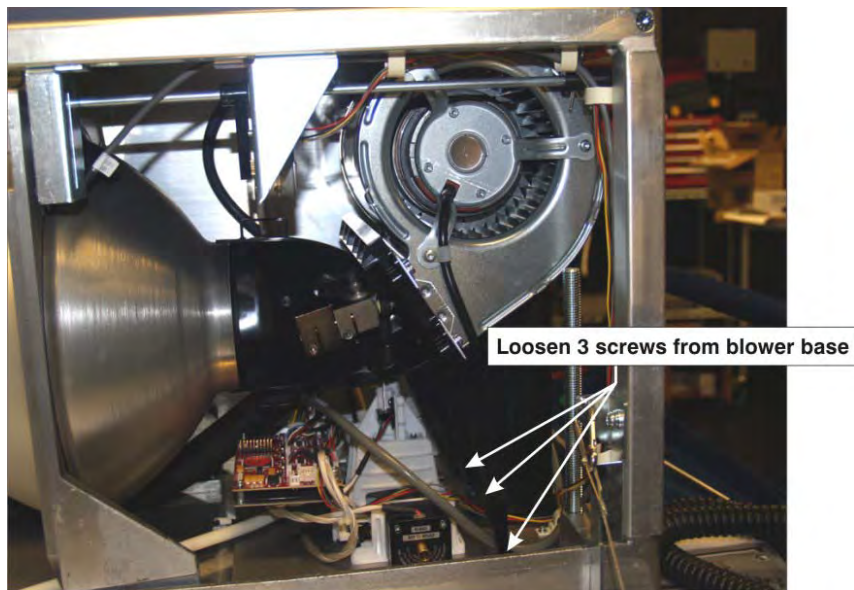

Figure 5-51 Lamp Blower Base
6. Remove the three screws located at the base of the lamp blower. Move the blower assembly to the side to gain access to the two rear screws holding the lamp adjuster assembly in place (**Figure 5-51**).